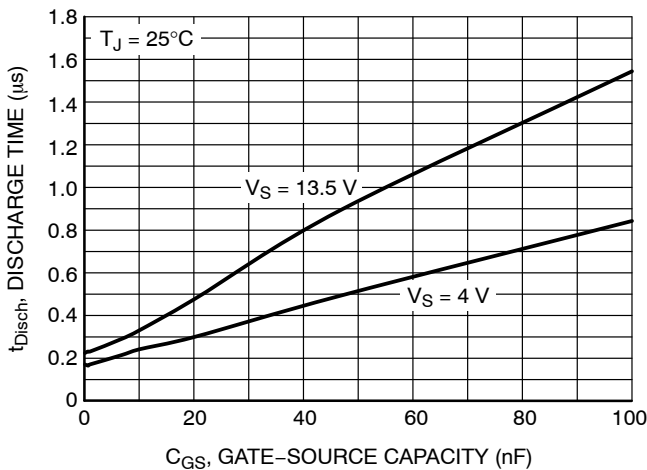

Figure 8. Discharge Time (from  $V_{SD} = 0$  V to  $V_{GS} = 0$  V) vs. Gate-Source Capacitance
- tDisch – discharge time for the given Gate–Source capacity of the external NMOS (see Figure 8)